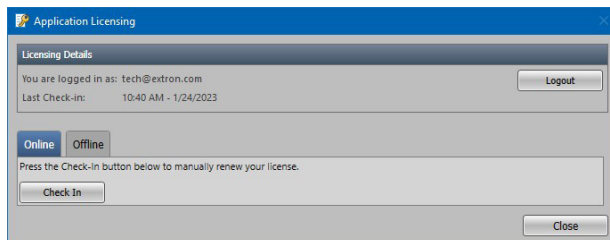

Figure 23. Application Licensing Dialog Box
2. Click the **Details** button (see figure 23, ①) for more information.
3. To display details about third-party software packages and associated licensing, click **Licenses** (②).
4. Click the **OK** button (③) to close the dialog box.